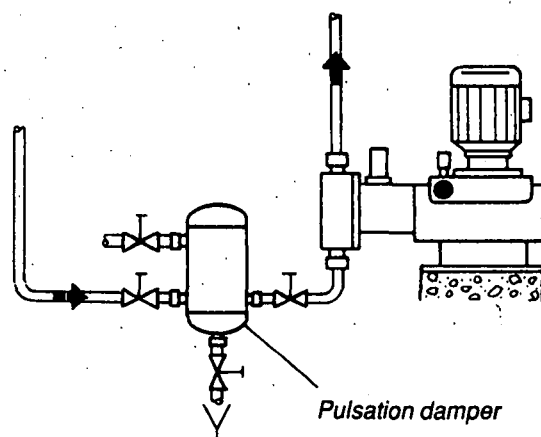

Figure 2
- Suction lines must be designed in a way, that cavitation is avoided. They should be kept as short as possible. In plants requiring long suction lines, adequate suction pulsation dampers should be installed directly before the pump (figure 2).